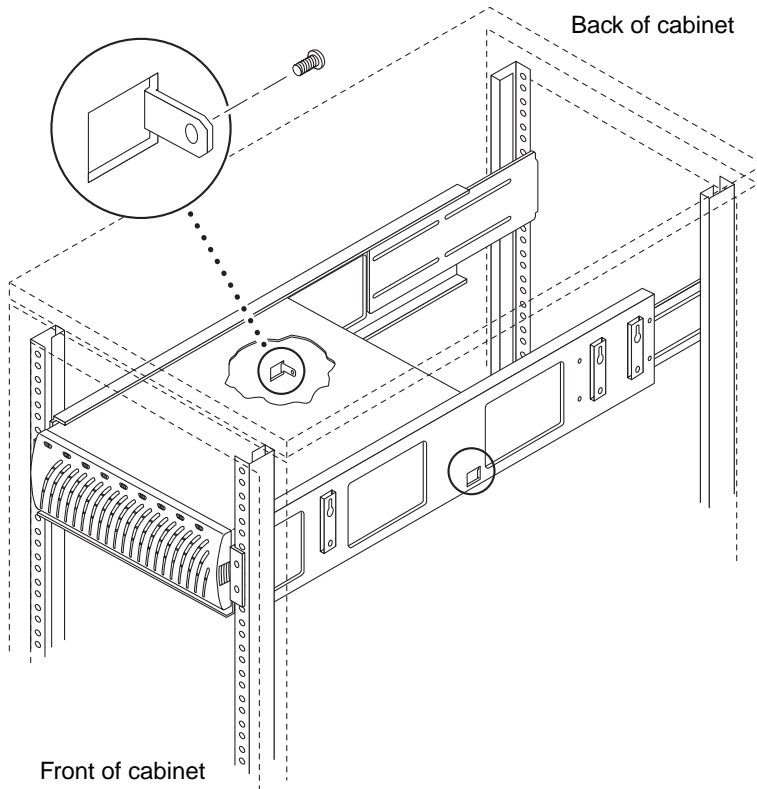

FIGURE 3-4 Securing the Disk Tray Chassis
3. Secure the disk tray to the side rails by threading two screws (part number 240-1953-01) into the support plate at the back of the disk tray chassis (FIGURE 3-4).